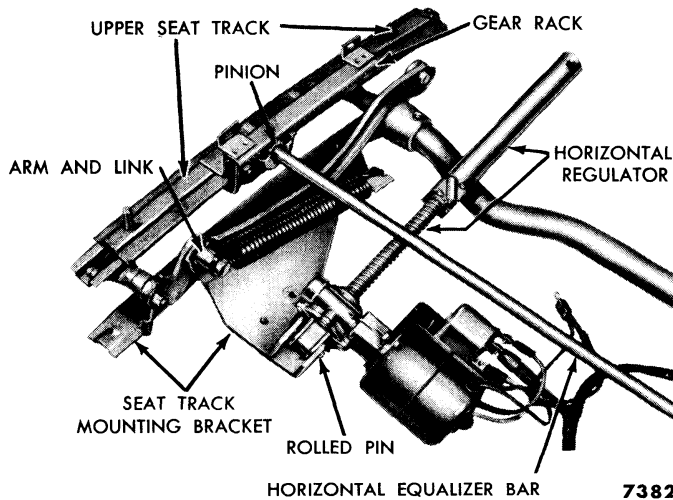
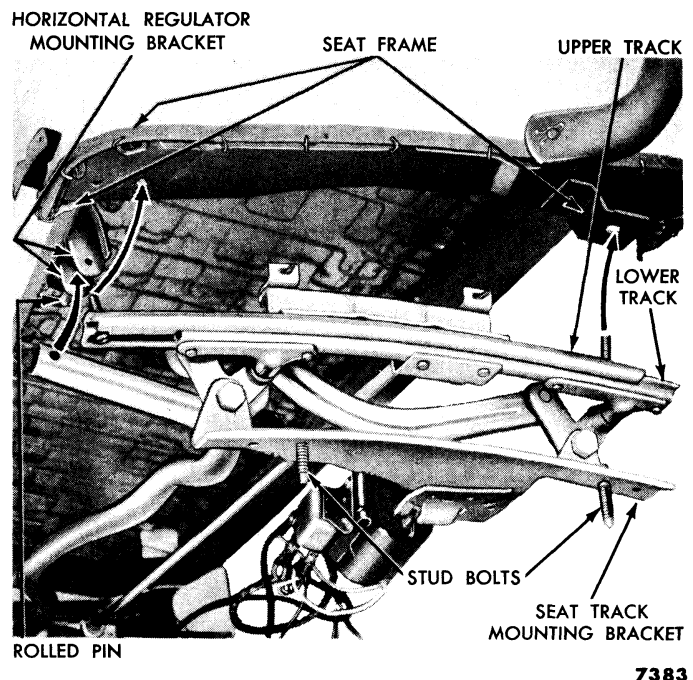
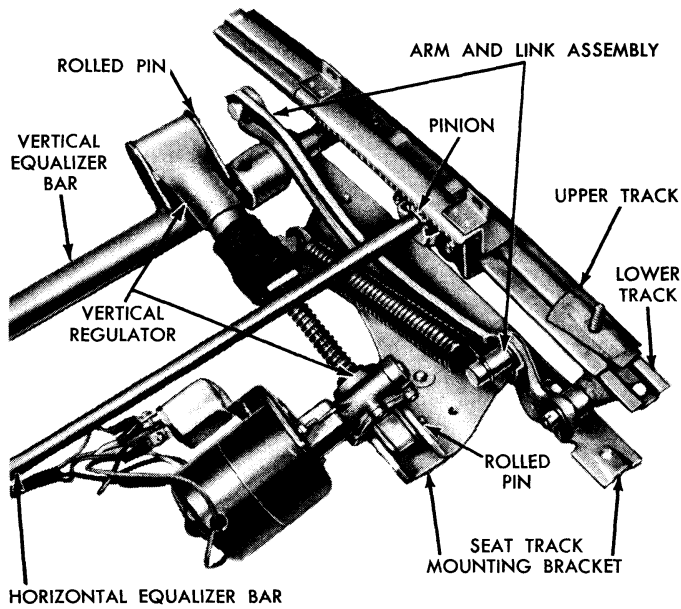

Fig. 11—Power Seat Assembly—Left Side
Fig. 12—Power Seat and Frame Attaching Points
Fig. 13—Power Seat Assembly—Right Side
and jack which is a part of the horizontal seat regulator. This regulator is located under the left side of the front seat (fig. 11). One end of the regulator is attached to a bracket mounted on the forward edge of the seat frame (fig. 12). The other end of the regulator is attached to the left-hand seat track mounting bracket which is bolted to the floor pan. When the regulator rolls the seat forward, pressure is applied to the seat frame. Since the upper seat tracks are bolted to the seat frame, the upper tracks will slide on the lower tracks which are attached to the stationary mounting brackets (figs. 11 and 12).
gear at each end. The equalizer bar and gears rotate in two brackets one of which is mounted at each lower (stationary) track. The pinion gears engage racks mounted to each upper (sliding) track. The force of the horizontal regulator against the left-hand track assembly is transferred equally through the equalizer bar, pinion gears, and racks to the right-hand track assembly (figs. 11 and 13).
The vertical action of the power seat is accomplished through the vertical regulator. One end of this regulator is attached to the right side seat track mounting bracket. The other end of the regulator is attached to a bracket welded to the vertical equalizer bar (fig. 13). The ends of the vertical equalizer bar are connected to the track assembly through an arm and link mechanism. When a vertical seat adjustment is required, the four-way control switch activates the vertical seat regulator. Since the vertical seat regulator is equipped with a screw and jack, vertical movement of the seat can be accomplished through the vertical equalizer bar and the arm and link assemblies at each end.
In figures 11, 12 and 13, the power seat assembly is removed from the car and disassembled from the seat frame for illustration purposes only. It is not necessary to remove the seat assembly from the car in order to replace either the horizontal or vertical regulator assembly, motor or relay. These parts can be removed from behind and underneath the front seat.
(1) REGULATOR ASSEMBLIES. When replacing the horizontal regulator, remove the left seat side shield (four attaching screws), remove the nut and bezel that retains the control switch to the side shield, and remove the switch from the shield. If the vertical regulator is to be replaced, remove the right seat side shield. Disconnect the assist spring (left for horizontal regulator, right for vertical regulator) by using a stiff wire with a loop on the end. Hook the loop of the wire to the rear loop of the spring and pull the spring back so as to disengage it from the arm and link assembly (fig. 11 or 13). Disconnect the motor ground wire at the bullet connector and disconnect the three wires (cable to relay) from the relay. Drive the rolled attaching pin from each end of the regulator assembly with a $\frac{1}{4}$ x 12 drill rod (figs. 11 and 12 for horizontal regulator, fig. 13 for vertical regulator). Remove the regulator, motor, and relay as one assembly.
the relay and motor, and test the seat operation. Hook one end of the spring to the forward end of the seat track mounting bracket, hook the looped wire to the other end of the spring, and pull the spring back so that it will hook around the arm and link assembly (figs. 11 and 13). Install the side shield (four attaching screws). With the horizontal regulator, install the control switch to the side shield with the bezel and attaching nut.
Remove the two front seat shields. Remove the control switch from the left hand shield. Loosen and remove the seat track mounting bracket stud bolts and nuts from the under side of the floor pan (fig. 12). Remove the seat track assembly (with seat frame attached) from the vehicle.
Remove the rolled pin that attaches the horizontal regulator jack to the bracket on the seat frame (fig. 12). At both right and left seat tracks, remove the Phillips head screw and the stud nut that attaches the upper track to the seat frame (fig. 12). Remove the seat frame from the seat track assembly.
Attach the seat track assembly to the seat frame by installing a Phillips head screw at the forward end of each upper track and a stud nut at the rear end of each upper track (figs. 12 and 13). Position the horizontal regulator jack to the bracket on the seat frame and install the rolled type attaching pin. Lift the power seat assembly into the vehicle and connect the motor and relay wires. Align the holes in the seat track mounting brackets with the holes in the floor pan, and install the mounting studs and nuts from the under side of the floor pan.